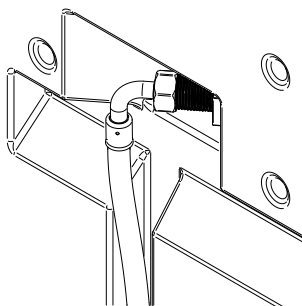

Fig. 6
- 6.12 **Cold mains feed connection:** The connection to the cold-water mains inlet is made using the 15 mm compression flexible hose supplied. Ensure the rubber sealing washer supplied with the hose is installed when the hose is fitted. When tightening ensure the fill valve within the tank is not rotated. If the valve is rotated it may not function correctly with the risk of flooding. The hose is made water-tight with a sealing washer on assembly, nip tight to 4 to 5 Nm for water-tight seal. **(Do not overtighten)**. See Fig. 6.